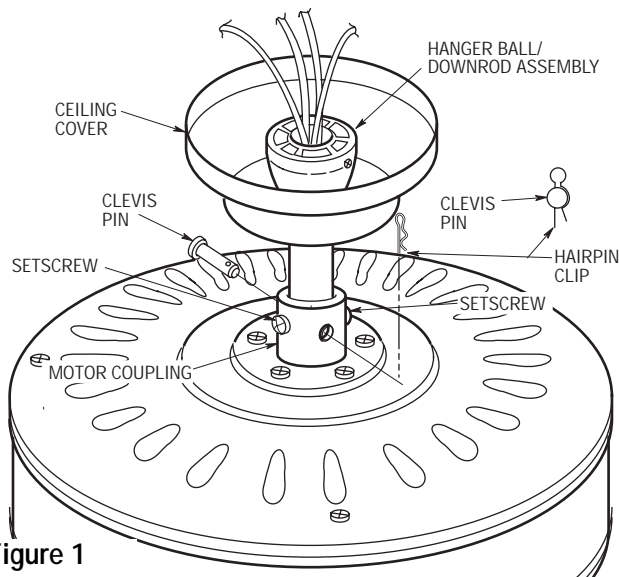

Figure 1
1. Pass the 80" motor leads through the opening in the ceiling cover. Be sure the cover is oriented correctly (Figure 1).
3. Remove the two setscrews from the motor coupling. Align the clevis pin holes in the downrod with the holes in the motor coupling. Install the clevis pin and secure with the hairpin clip (Figure 1). The clevis pin must go through the holes in the motor coupling and the holes in the downrod. Be sure to push the straight leg of the hairpin clip
- 4. Reinstall the two setscrews in the motor coupling. While pulling up on the hanger ball, securely tighten the setscrews (Figure 1).